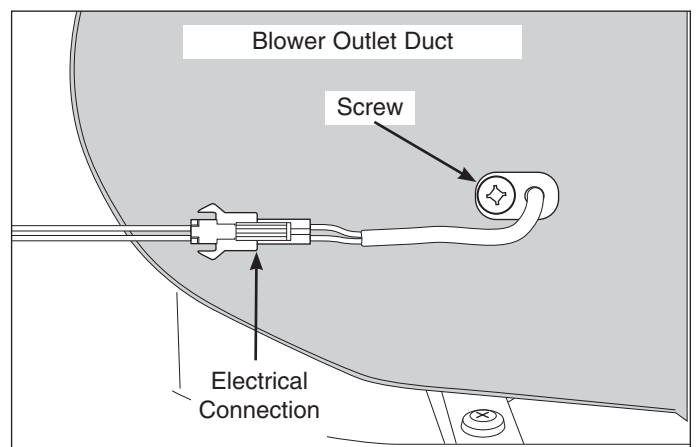

Figure 4-35.
3. Using a #2 square bit screwdriver, extract the screw securing the outlet thermistor to the blower outlet duct. (See Figure 4-35)